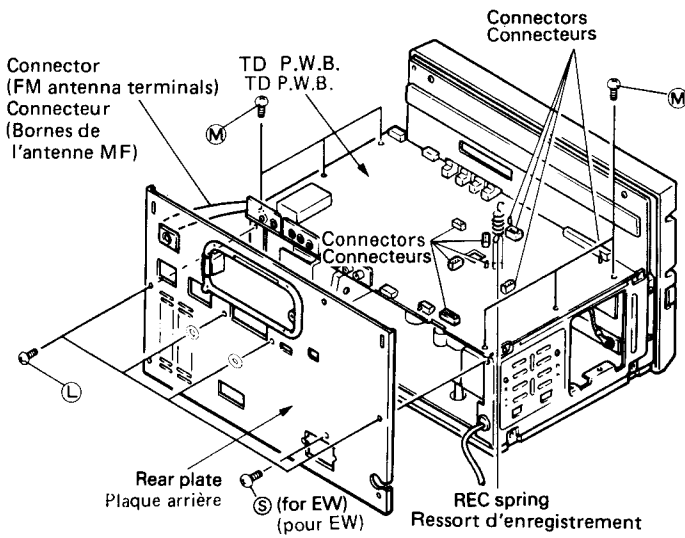

Fig. 4
- 2. Removing the Rear Plate (Fig. 4)**
- 3. Removing the TD P.W.B. (Fig. 4)**
- 2. Retrait de la plaque arrière (Fig. 4)**
3. Retrait de la P.C.I. TD (Fig. 4)